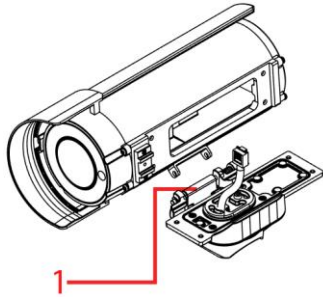

Figure 9
- C. Push the pin (1) (Figure 9) and place the camera onto the hinge and release the pin so that the camera is attached to the mounting arm plate.